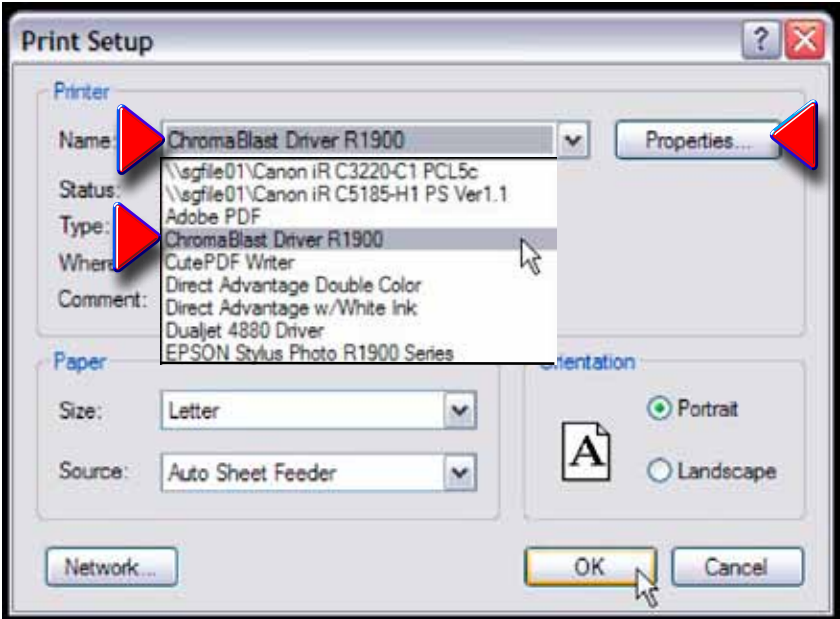
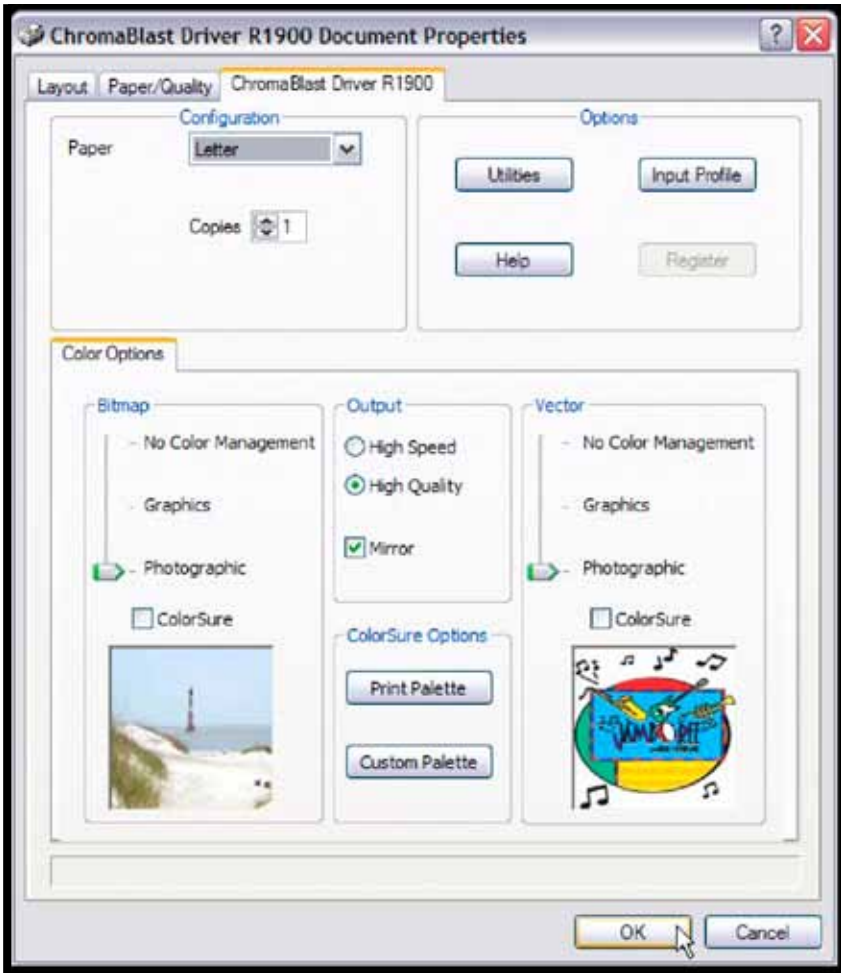

Figure 2
Figure 3
- 3) In **Figure 3**, you must set preferences according to the printing you require, either **Bitmap** or **Vector** Artwork, or **“No Color Management”**. You need also choose **“Photographic”** or **“Graphics”**, **Paper Size**, **Number of Copies**, **“High Speed”** or **“High Quality”**, **“Mirror”** or not, and **“ColorSure”** Involvement, if any. Once this is done, click **“OK”** to return to the **“Print” Window (Fig. 2)**. Here, click on **“Apply”**, and then **“Print”**.